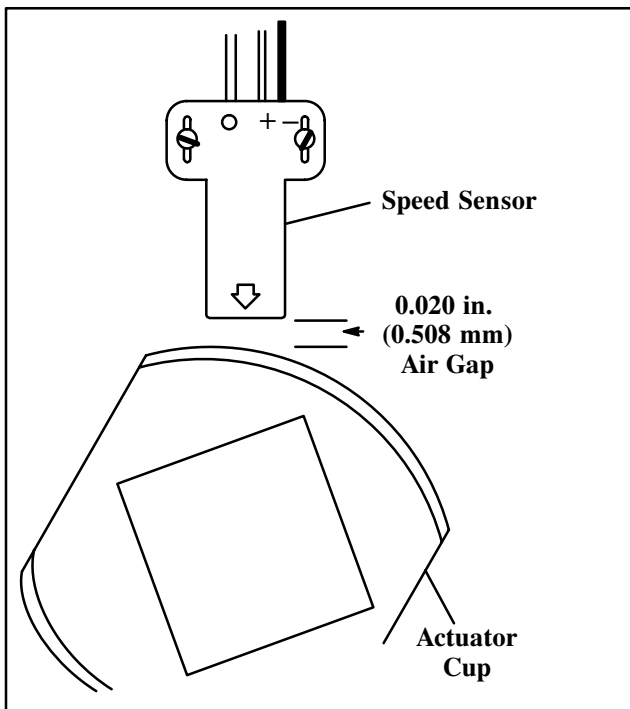

Figure 8. Speed Sensor Air Gap
19. Reconnect speed sensor leads. Set speed sensor air gap at 0.020 in. (0.508 mm). See Figure 8.